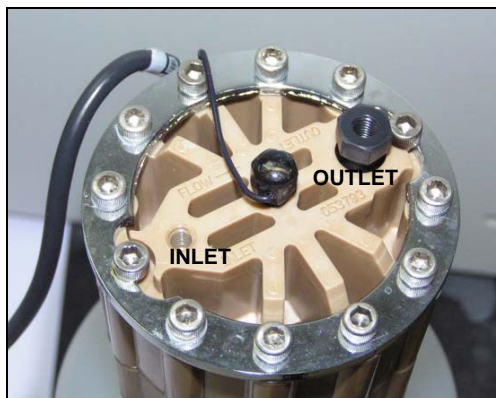

Figure B-54. EluGen Cartridge Fitting Plugs
6. Orient the EluGen cartridge with the fittings facing up and remove the plugs from the cartridge **INLET** and **OUTLET** fittings (see Figure B-54).